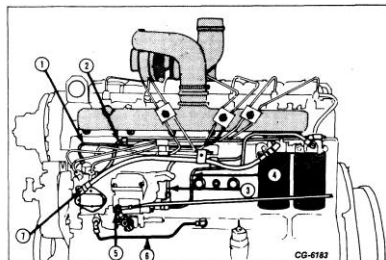

Figure 28 - DT-466 (Side View)
1. Disconnect the governor control linkage (5, Fig. 28) from the pump.
- a. Lube oil-supply tube (6, Fig. 28).
- b. Primary filter-to-supply pump tube (4, Fig. 28).
- c. Supply pump-to-final filter tube (3, Fig. 28).
- d. Final filter-to-injection pump hose (7, Fig. 28).
#### Legend for Figure 28
- e. Injection pump-to-injector lines (1, Fig. 28).
- f. Fuel-return tube (2, Fig. 28).